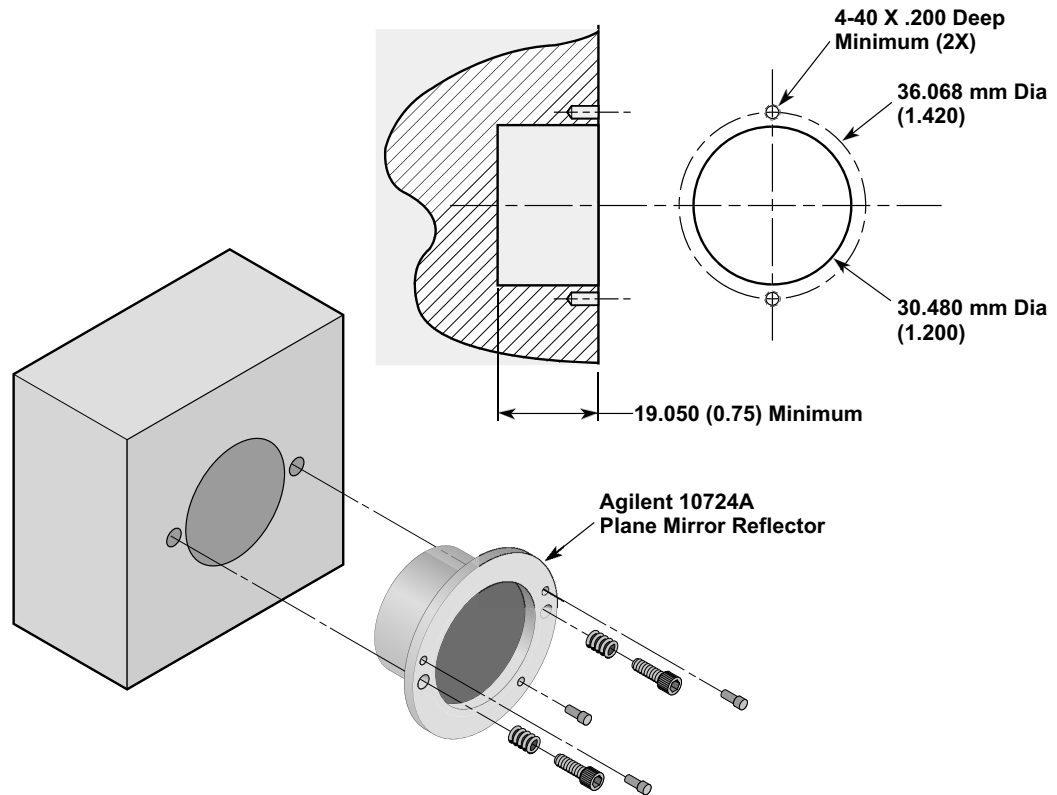

Figure 9-14. Agilent 10724A Plane Mirror Reflector — mounting requirements and installation
The Agilent 10724A is designed to be mounted into a hole or pocket on the stage (moving object). The mounting surface for the Agilent 10724A should be closely perpendicular to the axis of machine travel. Figure 9-14 shows the mounting hole details. Provision is made to lift the flange slightly off the mounting surface, thereby allowing pitch and yaw corrections to be made to align the Agilent 10724A exactly to the axis of machine travel.
- 2** Insert the labeled end (non-flanged end) of the Agilent 10724A into the mounting hole or pocket. Start the two #4-40 cap screws through the compression springs and the clearance holes in the flange and then into the mounting surface (See Figure 9-14).